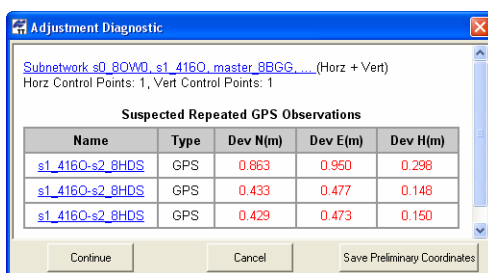

Figure 6-15. Messages After Analysis of the Repeated GPS Observation
- A failed test is where the difference is more than the values set in the **Job Configuration** dialog box. The network adjustment process will be interrupted and the **Adjustment Diagnostic** dialog box will display (Figure 6-15).